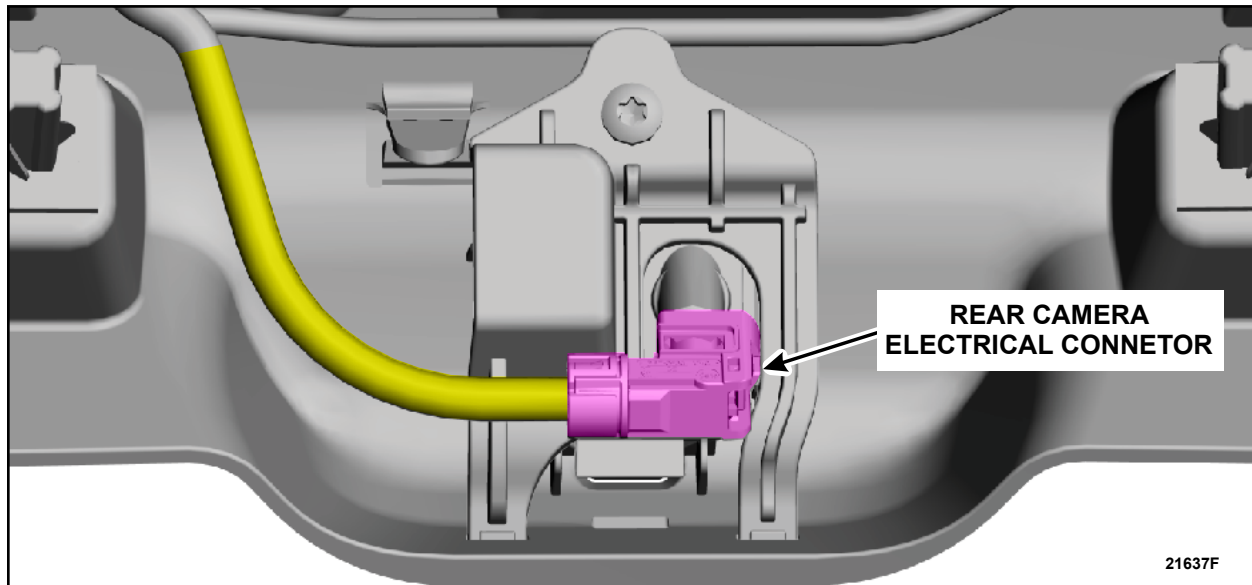

FIGURE 14
2. Disconnect the rear view camera electrical connector. See Figure 14.